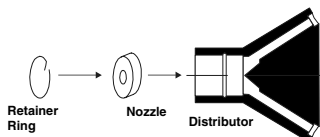

Figure 2 - Distributor
1. Inspect the refrigerant distributor and verify that the nozzle is in place. The nozzle is generally held in place by a retaining ring or it is an integral part of the distributor itself (see Figure 2 - Distributor). If a hot gas bypass kit was ordered with the coil, the nozzle